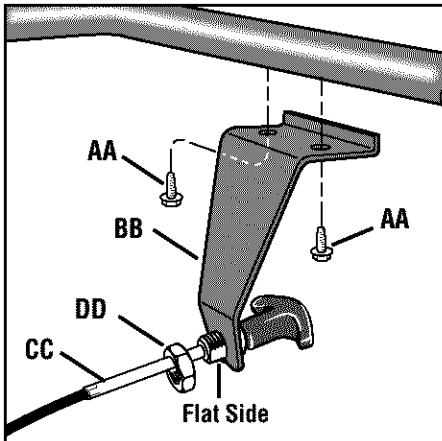
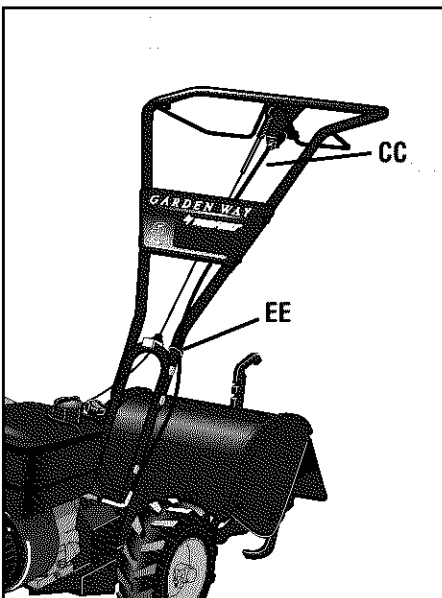

Fig. 2-8: Install reverse cable mounting bracket and the reverse clutch cable.
Fig. 2-9: Route reverse clutch cable (CC) as shown. Attach to handlebar with cable tie (EE).
1	Bracket, reverse clutch cable (see BB, Fig. 2-8, page 9).
1. Remove the two pre-installed self-tapping screws (AA, Fig. 2-8) from the handlebars.
2. Position the reverse cable mounting bracket (BB, Fig. 2-8) as shown and reinstall the two self-tapping screws.
3. Unwrap the reverse clutch cable (the cable with a knob and a large hex nut attached to it) from around its shipping position and route the cable (CC, Fig. 2-8 and Fig. 2-9) up to the cable bracket (BB, Fig. 2-8). Be sure that the cable goes beneath the Forward Clutch Bail as it is routed up to the cable bracket.
4. Insert the cable up through the slot in the cable bracket and position the threaded assembly as shown in Fig. 2-8. Make sure that the flat side of the threaded assembly is aligned with the flat side of the mounting hole. Slide the large hex nut (DD) up the cable and tighten it securely.
5. Use a cable tie (EE, Fig. 2-9) to fasten the reverse clutch cable to the left side handlebar.